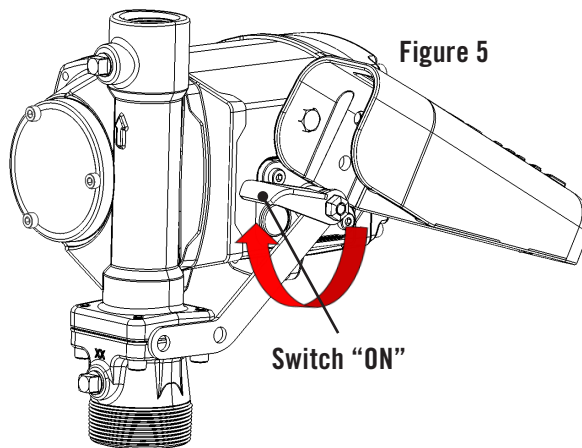

Figure 5
3. Move the switch lever to the "ON" (raised) position to start the motor (Figure 5). The pump should start and settle into a slow idle.
2. Push the bypass valve retainer down over the locking tab on the bypass valve. Push the retainer down (compressing the spring) until it is completely below the locking tab (Figure 5).